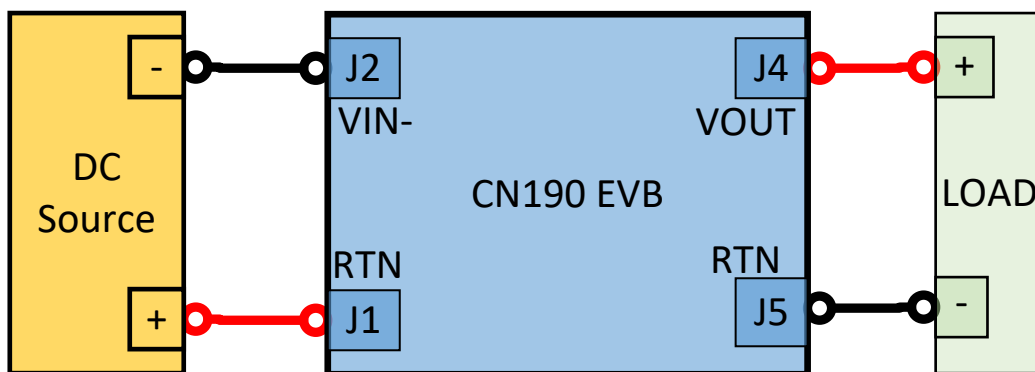

Figure 3 The Connection of the Default Output
- 1, Connect the power supply to the input terminals RTN(J1) and VIN-(J2). Connect the load to the output VOUT (J4) and RTN (J5). Make sure the setup is correct prior to applying any power or load to the board. Refer to Figure 3.